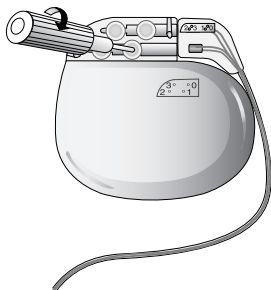

Figure 2. Tightening the setscrews in the self-sealing grommet.
4. Fully insert the torque wrench into each self-sealing grommet of the connector block and tighten each setscrew (Figure 2).
Note: The torque wrench must be oriented to the same angle as the setscrew (Figure 2).